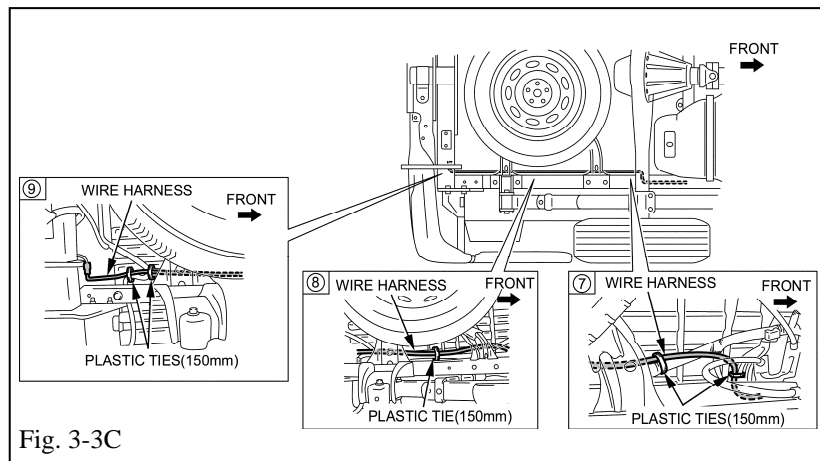

Fig. 3-3C
-  (2) Route the wire harness so that it does not interfere with the brake line, fuel line, and others. Use the correct amount of ties as listed in the table below. (Fig. 3-3C)